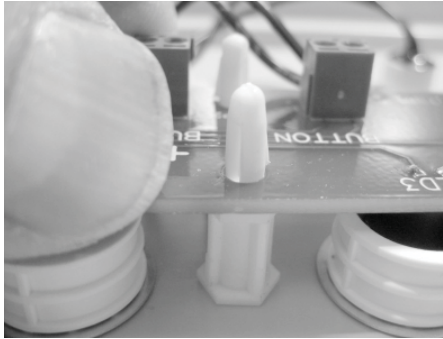

Figure 38 - Press the center of the Indicator Board completely down onto its supports
- e. Move to the middle of the board. Using two fingers as shown in Figure 38, gently press this end of the Indicator Board completely down onto the nylon support. A quiet “click” may be heard when the supports lock into place.